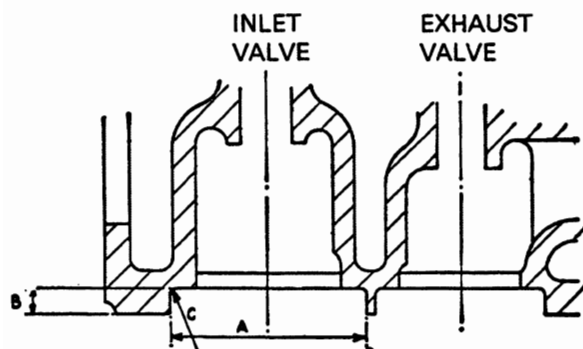

Fig. F10
3. By the use of a suitable tool, cut the old seats to the dimensions given in fig. F10.